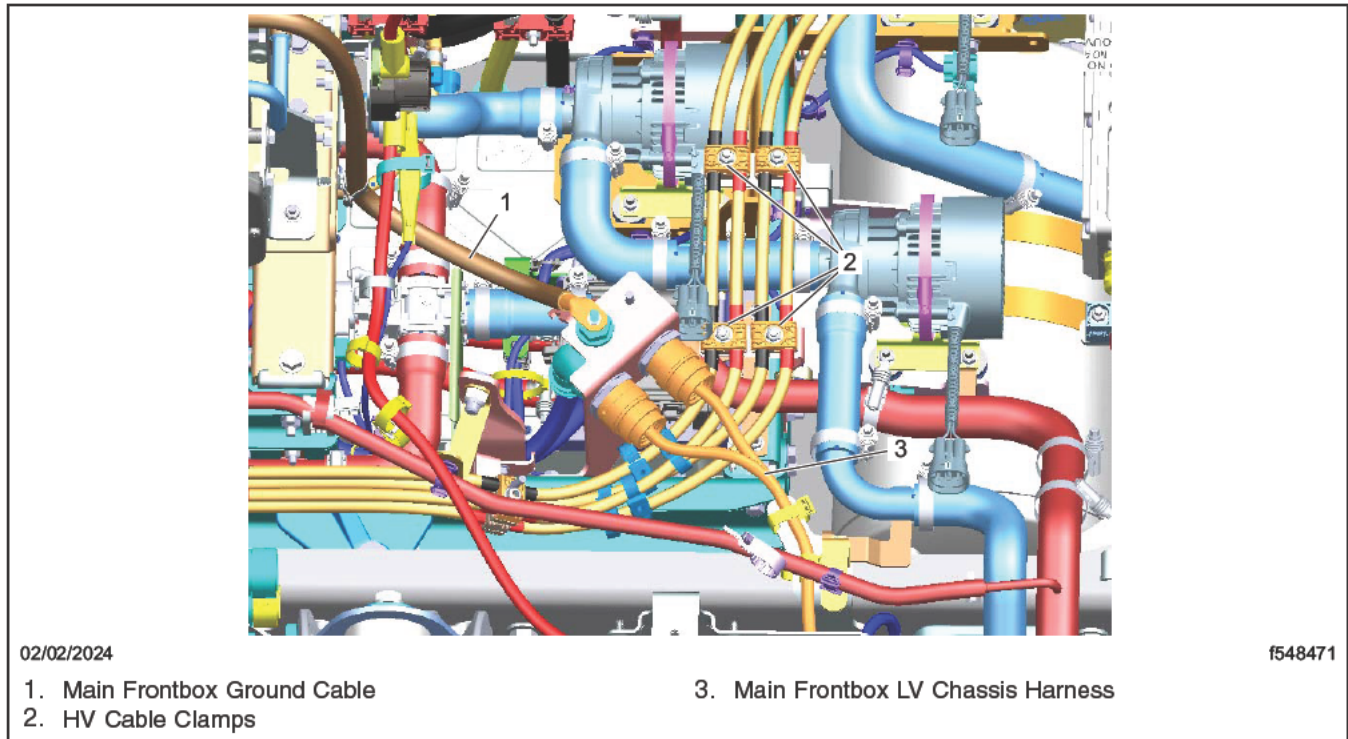

Fig. 6, Frontbox Wiring Harness Connections
20. Disconnect the frontbox ground cables See Fig. 6, on the next page.
21. Disconnect the main low voltage harness from the frontbox. Disconnect the LV harness from the coolant pump. See Fig. 6.
22. Remove the high voltage cable clamps in the hardline area, and gently move the high voltage cables out of the way. See Fig. 6.